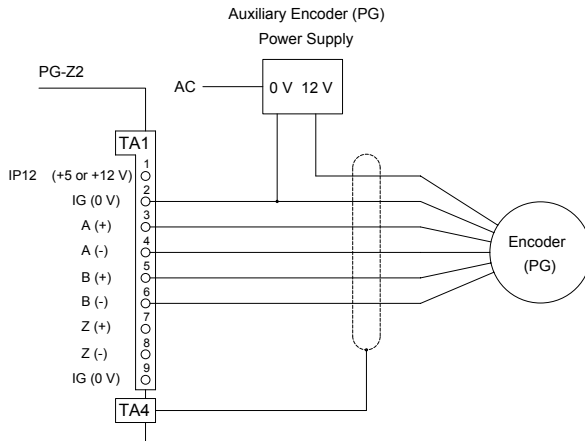

Fig. 7 Connection example with encoder (PG) when using separate power supply
Maximum power available to drive the encoder (PG) with the PG-Z2 is 200 mA. Should your encoder (PG) require more than 200 mA, it will be necessary to provide a separate power supply. See *Fig. 7*.